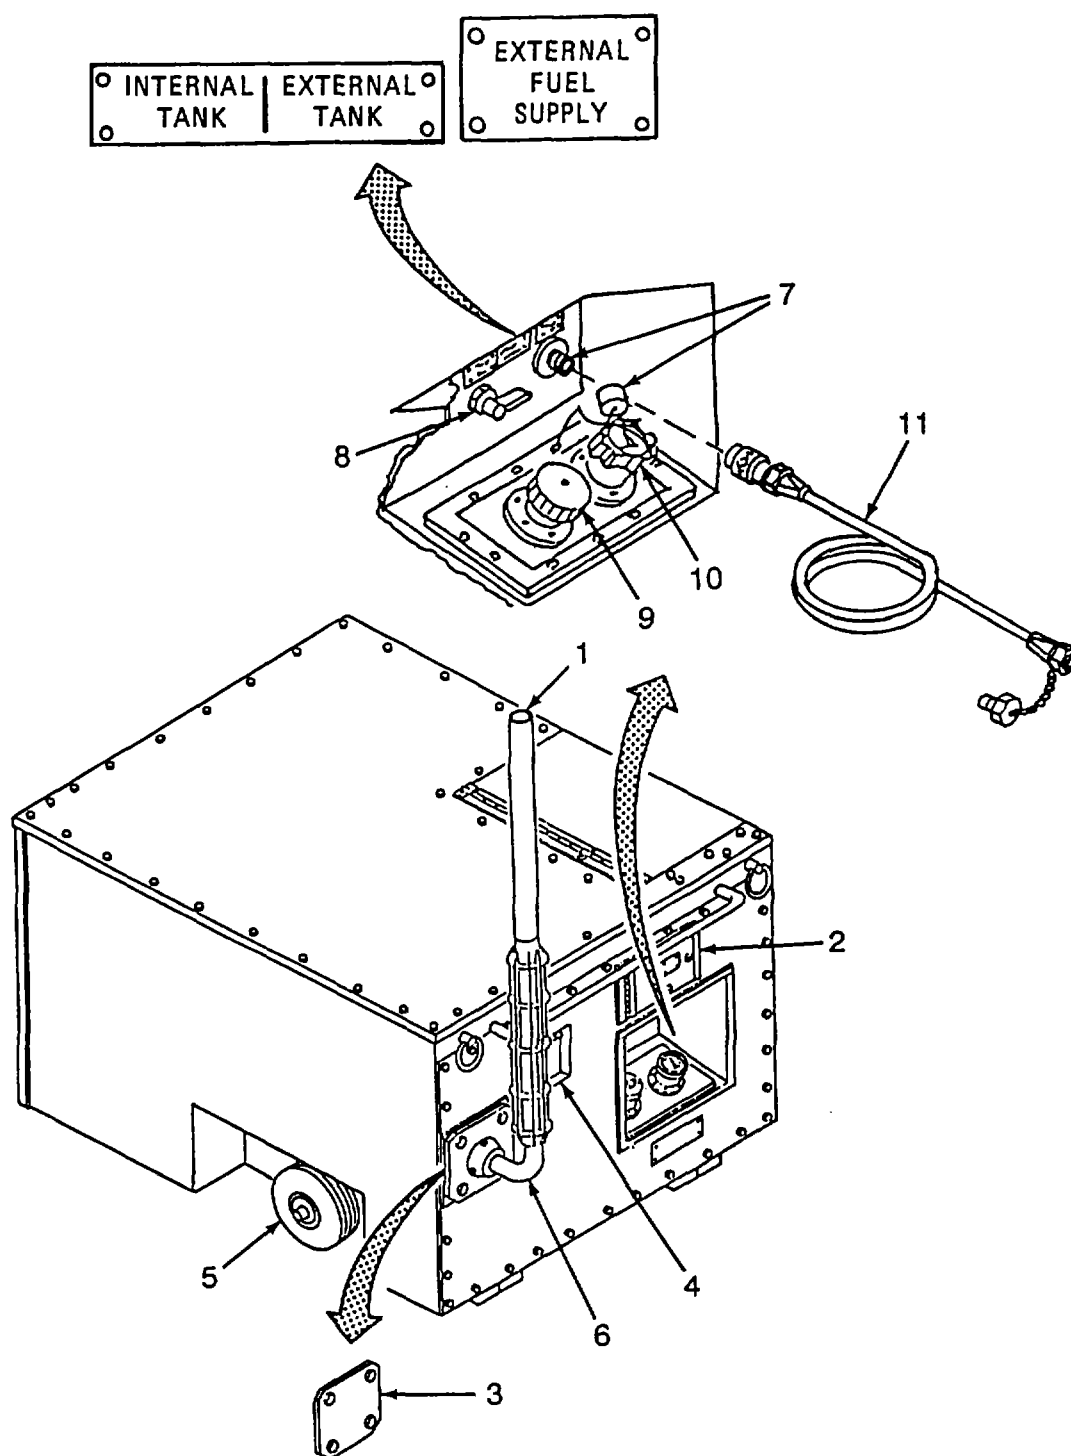

Figure 1-3. Rear and Left Side
- (8) Remote Thermostat Receptacle. The remote thermostat receptacle (8) provides a receptacle for attaching the remote thermostat cable.
- (9) Remote Thermostat and Cable. The remote thermostat and cable (9) controls temperature from inside the heated area.
- (10) Lubrication Chart. The lubrication chart (10) provides information for proper lubrication of the ASH.
- (11) Jack Assembly. The jack assembly (11) is used to raise the ASH to allow the wheels to be extended or retracted and to level the ASH.
- (12) Front Side Access Door. The front side access door (12) provides access to the ASH interior for inspections/maintenance, the handbook compartment, the exhaust elbow, and fuel hose.
- (13) Rear Side Access Door. The rear side access door (13) provides access to the ASH interior for inspections/maintenance and the remote thermostat.
- (14) Combustion Air Inlet. The combustion air inlet (14) brings air into the combustor blower assembly.
- (15) Retractable Wheel Assembly (right side). The retractable wheel assembly (15) allows an individual to move and position the ASH when used in conjunction with the left side wheel assembly.
- (16) Control Panel Cover. The control panel cover (16) protects the control panel.
- (17) Control Panel. The control panel (17) contains the operator controls and indicators used during operation. The hinged panel provides a central location for troubleshooting the ASH electrical components/controls.
**1-9. LOCATION AND DESCRIPTION OF MAJOR COMPONENTS - continued.****b. Rear and left Side. (Refer to Figure 1-3)**
- (1) Exhaust Pipe. The exhaust pipe (1) provides for removing the exhaust gases from the heater during operation.
- (2) Exhaust Pipe Stowage Compartment. The exhaust pipe is stored in the exhaust pipe stowage compartment (2) when the ASH is being shipped or not in use.
- (3) Exhaust Cover Plate. The exhaust cover plate (3) covers the ASH exhaust port when shipped or in stowage. The exhaust cover plate is stowed in the exhaust elbow stowage position when the elbow is attached to exhaust port.
- (4) Sight Glass. The sight glass (4) is used to look into the burner/heat exchanger compartment to ensure that ignition is on and the burner flame is functioning properly.
- (5) Retractable Wheel Assembly (left side). The retractable wheel assembly (5) allows an individual to move and position the ASH when used in conjunction with the right side wheel assembly.
- (6) Exhaust Elbow. The exhaust elbow (6) when attached to the exhaust port at the rear of the ASH directs exhaust fumes upward into the exhaust pipe.
- (7) External Fuel Connection. The external fuel connection (7) is a quick disconnect and is used to connect the external fuel hose to the ASH. It is protected by a removable cap.
- (8) Fuel Selector Valve. The fuel selector valve (8) allows the user to select either an external fuel source or the ASH's internal fuel tank.
- (9) Fuel Tank Cap. The fuel tank cap (9) prevents dirt and debris from entering the internal fuel tank. The cap is removable for filling the internal fuel tank.
- (10) Fuel Gage. The fuel gage (10) indicates the amount of fuel remaining in the internal fuel tank.